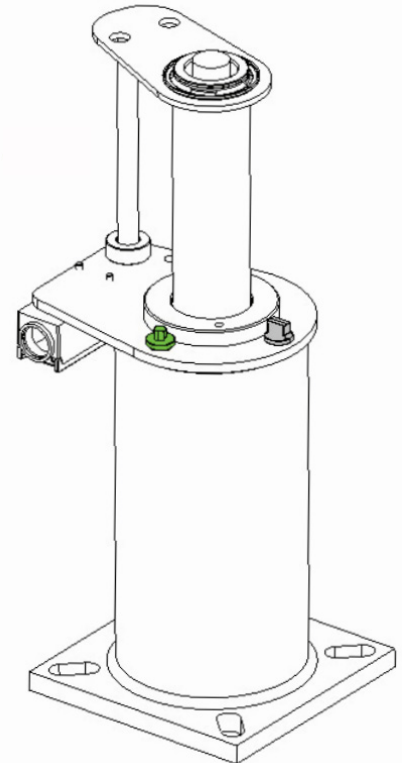

Figure 5
1. Unscrew the airscrew, remove from the buffer and keep safe. ( GREEN in figure 5)
2. Unscrew the dipstick, remove from the buffer and keep safe. ( GREY in figure 5).